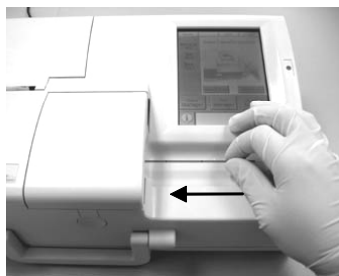
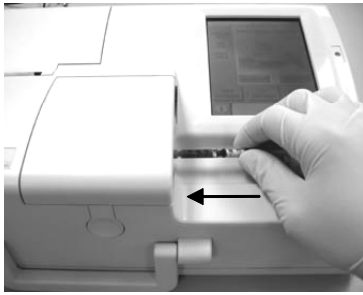

Fig. 5-9 Attach Capillary
Fig. 5-10 Attach Syringe Sample
- Using a capillary, a syringe and adapter, or ComfortSampler, attach the sample to the cassette fillport (Fig. 5-9 and Fig. 5-10), and press .